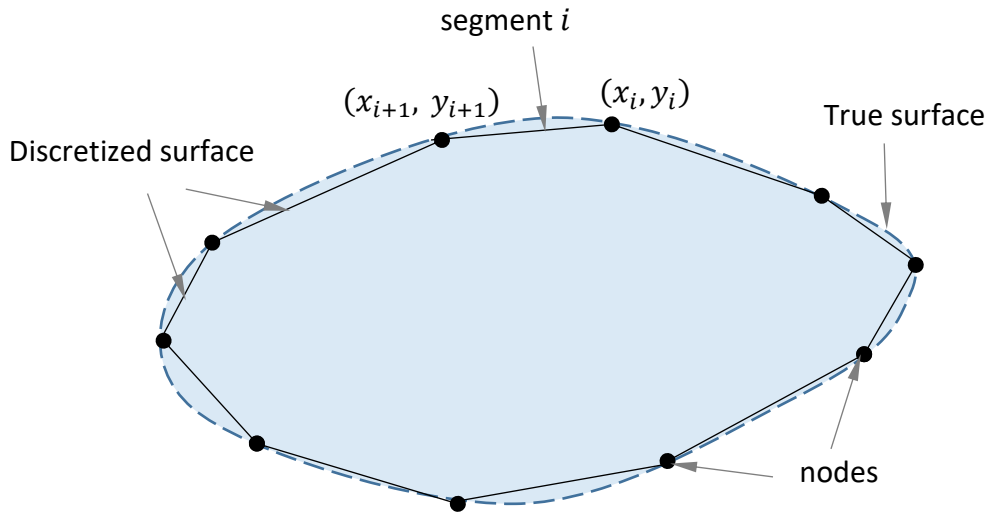

Figure 2: Illustration of discretized surface
- The parameters **x** and **y** are **numpy** arrays of the **(x, y)** coordinates of the segment or *panel nodes*: the little dots (called nodes) in Figure 2. For example,  $x_i$  from Figure 2 would be stored in **x[i]**, and  $y_i$  would be stored in **y[i]**.
- Figure 2 shows an example of a closed surface with  $m=10$  segments, where the  $i^{\text{th}}$  segment has nodes  $(x_i, y_i)$  and  $(x_{i+1}, y_{i+1})$  on either side. In case of open surfaces (as the ship hull example) of  $m$  segments, the number of nodes will be  $m+1$ . But in case of closed surfaces,  $m+1$  nodes are still stored for the  $m$  segments, even though the  $(m+1)^{\text{th}}$  node will be redundant with the  $1^{\text{st}}$  node, in the same way that the  $i^{\text{th}}$  node is redundant as the first edge of segment  $i$  and last edge of segment  $i-1$ .
- The parameters **x** and **y** are defined exactly like they are for **panel\_midpoints**; that is, they are the coordinates of the panel nodes in Figure 2.